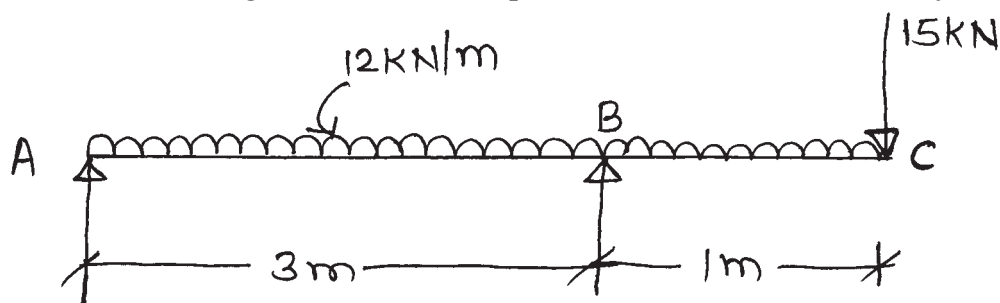

Fig. No. 5
- c) Draw SF and BM diagrams for an overhanging beam as shown in Fig. No. 5. Locate point of contra flexure if any.